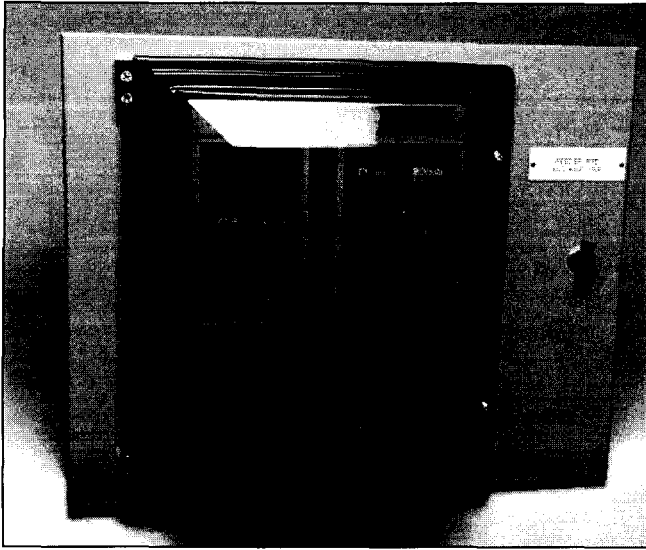

Figure 3-52 IP54 Waterproof Cover
**IP54 Waterproof Cover** - A hinged dome shaped waterproof cover attaches to the metal compartment door to provide waterproof protection for the circuit breaker (Figure 3-52).